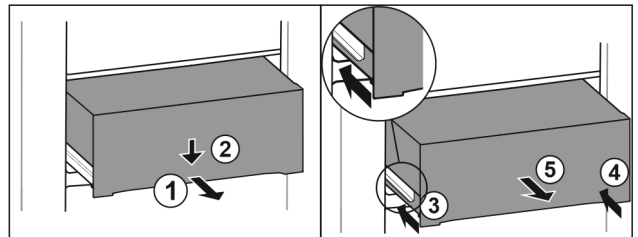

Fig. 133
- ▶ Pull out the drawer halfway. Fig. 133 (1)
- ▶ Press down the drawer on the front. Fig. 133 (2)
- ▶ Push in the left rail approximately 2 cm (13/16 in). Fig. 133 (3)
- ▶ Push in the right rail approximately 2 cm (13/16 in). Fig. 133 (4)
- ▶ Remove drawer to the front. Fig. 133 (5)